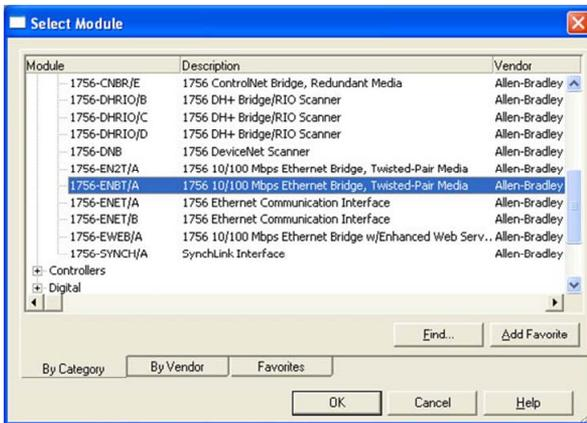

Figure 74: Adding a New 1756-ENBT/A Module
- 5) Under “Communications”, select “1756-ENBT/A”, and click OK. Refer to Figure 74.